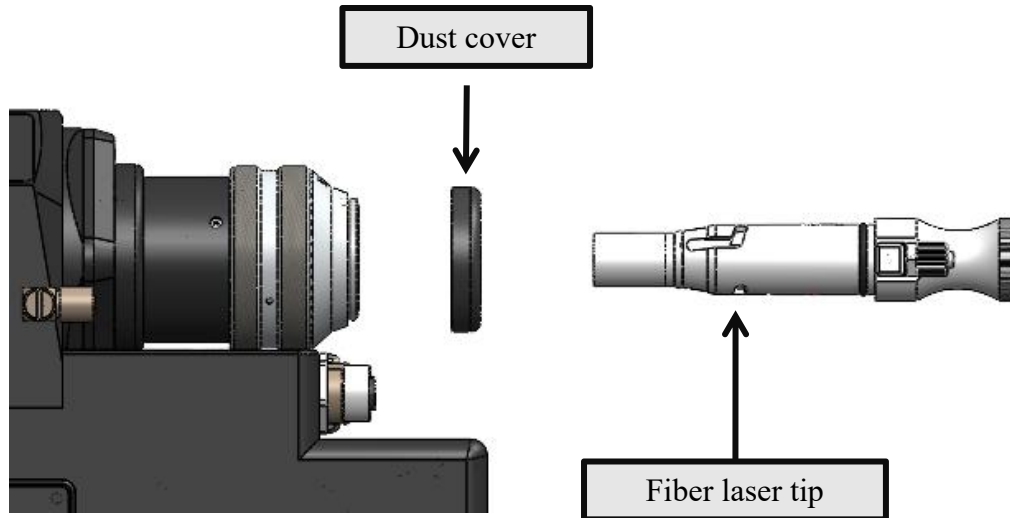

Figure 1.8
- ① Place the cutting head horizontally, remove the white cap and the electrostatic sticker from the head, and take out the dust seal and dust cover, as shown in Figure 1.8.